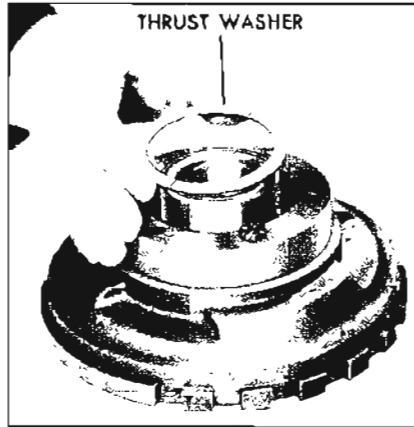

Figure 5-555
2. Remove the center support to reaction carrier bronze thrust washer. See Figure 5-555.